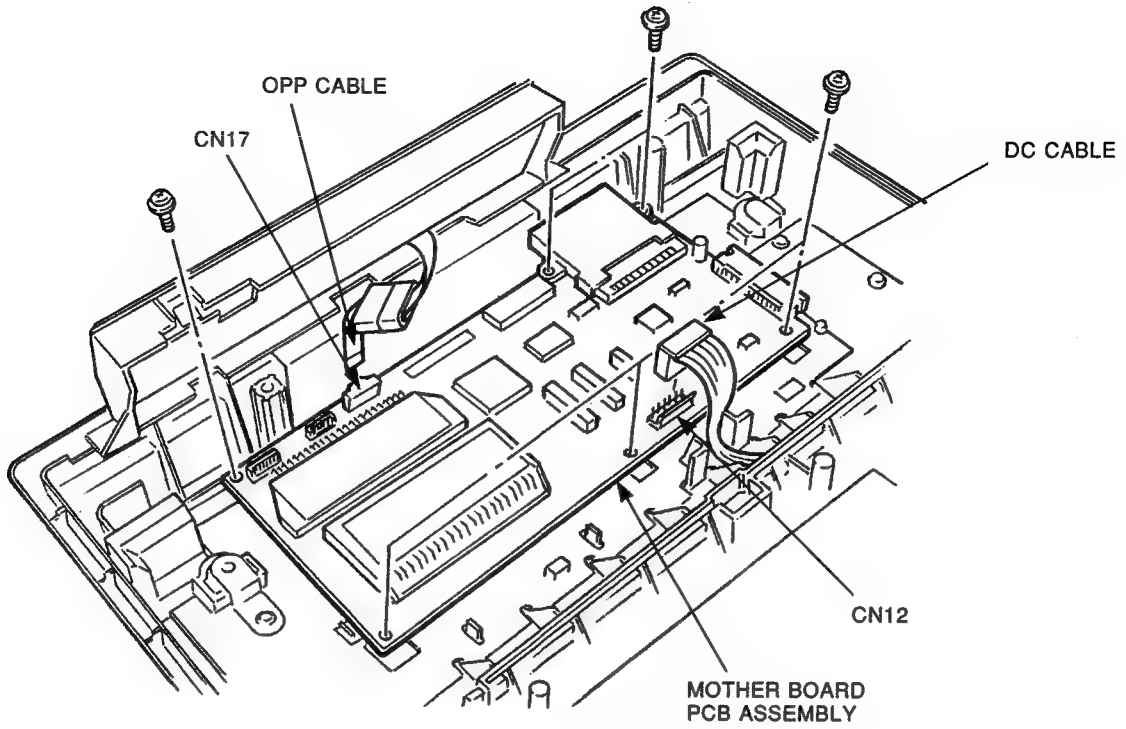

Figure 3-64 DC Cable Removal and Mother Board PCB Assembly Removal
2. Pull up both ends of the connector lock CN17 and remove the OPP cable from the unlocked connector (see Figure 3-64).
3. Disconnect DC cable from CN12 of the mother board PCB (see Figure 3-64).
4. Remove the six mounting screws (see Figure 3-64).